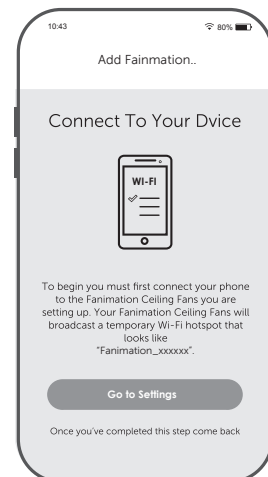

Figure 5
- ☐ 5. Assemble the light kit wire cover to the light plate assembly using the two key slots in the light kit wire cover. Replace the previously removed screw and securely tighten all three screws. (Figure 5)
- ☐ 7. To set the remote code in the same positions as the receiver, use a small screwdriver or ball point pen (neither included) to slide dip switches firmly up or down. (Figure 5)
- ☐ 5. At this stage, your ceiling fan WiFi receiver should be installed and within range of your WiFi router. With the APP open, select "add device". (Figure 5)